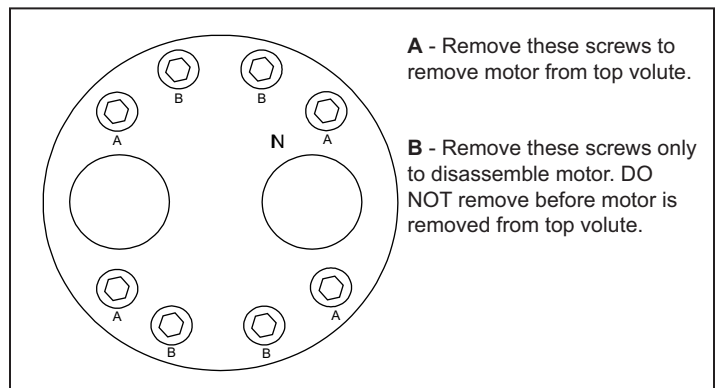

Figure 1. Motor Mounting Screws
4. Remove ONLY the four 10-24 x 3 hex socket head capscrews, marked "A" in Figure 1, then PUSH on the MAIN SHAFT end to remove the assembled motor from the volute top.
4. Remove ONLY the four 10-24 hex socket head capscrews, marked "A" in Figure 1, then PUSH on the MAIN SHAFT end to remove the assembled motor from the volute top.
1. Remove the four 10-24 x 2 socket head capscrews, marked "B" in figure 1, securing the motor gear housing to the front bearing retainer.
6. With the gear housing correctly fitted against the front bearing retainer, install the four 10-24 x 2 socket head capscrews, marked "B" in figure 1. Tighten the capscrews to 35 pound inches (lubricated). Check that the shaft turns freely.